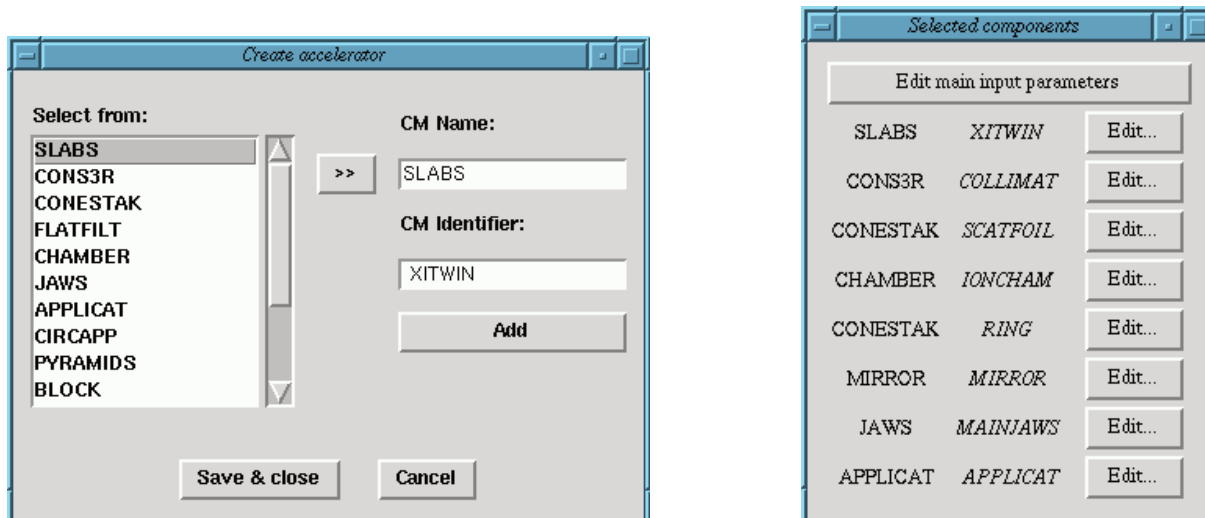

Figure 1: The windows for specifying a new accelerator (left) and for displaying the selected CMs in the accelerator (right).
The first step in using the GUI is to load an accelerator. If you wish to load a previously defined accelerator, select the **Load a previous accelerator** option from the main window File menu (shown on the front of this manual). A browser will allow you to select the file you wish to load from the `$EGS_HOME/beamnrc/spec_modules` directory closest to the directory in which the GUI was started. Otherwise, select the **Specify a new accelerator** option. A window will appear which allows you to select the CMs you would like to add to the accelerator, shown on the left of figure 1. Double-clicking a CM name on the list, or clicking once to select then clicking the “>>” button, will insert the CM name into the text box. Enter an identifier name (maximum of 8 characters) then click **Add** to add the CM to the accelerator. The window on the right of figure 1 shows the window which holds the selected CMs.
To edit the parameters for a component module (CM), click on the **Edit...** button associated with it (see the window on the right of figure 1). A window will appear with the necessary parameter entry boxes for the CM. A typical CONESTAK CM parameter window is shown in figure 3. The default values associated with that type of CM are displayed at the top of the window. If they are not appropriate for what you need, they may be edited in the file `$OMEGA_HOME/beamnrc/CMs/<CMname>_macros.mortran`. Note that if these files are changed, the changes will apply to all users. Also shown is the current Z-position on the accelerator of the front of that CM, based on the geometry defined for the previous CM at the time the window was opened (reopen the window to get an update of this value).